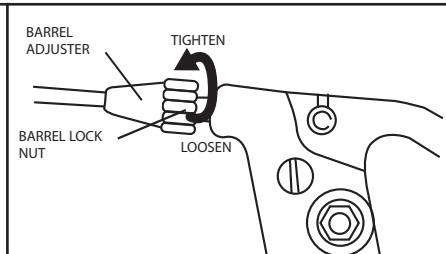

Figure DSK-2
Adjusting Caliper or Side Pull Brakes: For minor cable adjustments, you can rotate the cable barrel adjuster located on the caliper (figure BRK-1) or on the lever (figure DSK-2) counter clockwise or clockwise.
b.For minor cable adjustments, rotate the barrel adjuster located at the brake lever (figure DSK-2) counter clockwise or clockwise.